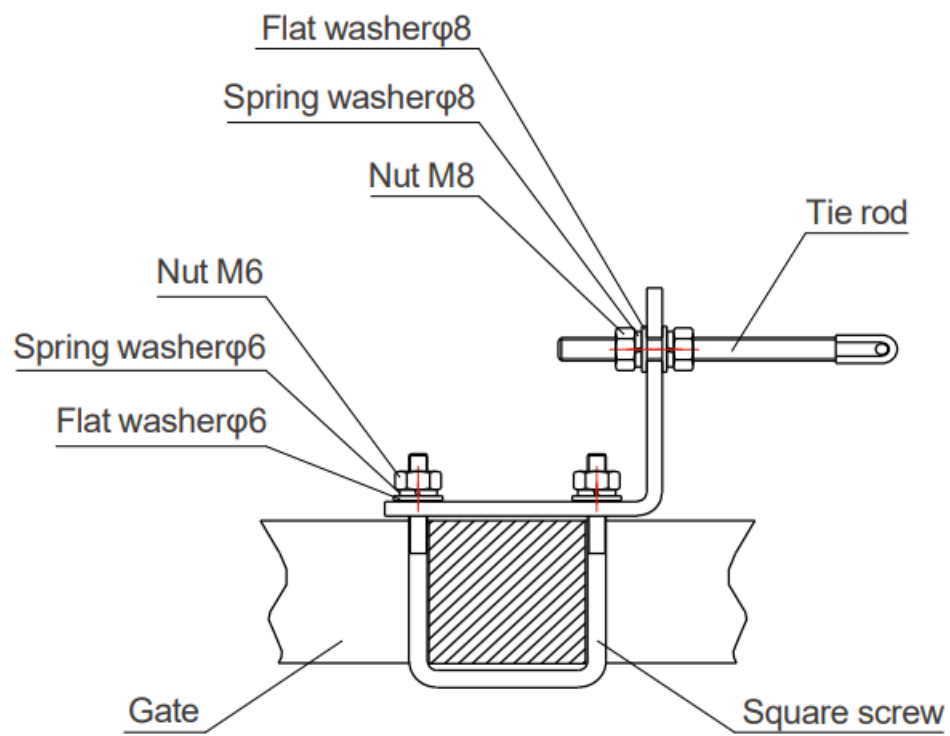

Figure 9
- If the door frame is square, please use the square screw as shown in Figure 9: